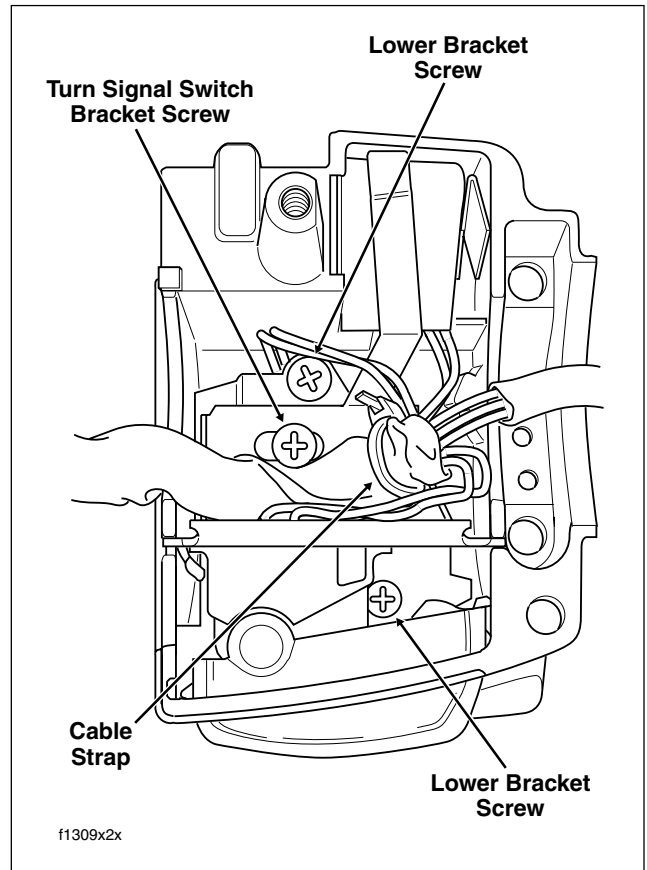

Figure 8-104. Lower Right Handlebar Switch Housing (Without Splices) - Classic/Ultra Models
2. Remove two lower bracket screws. Pull bracket and switch from switch housing. See Figure 8-104.